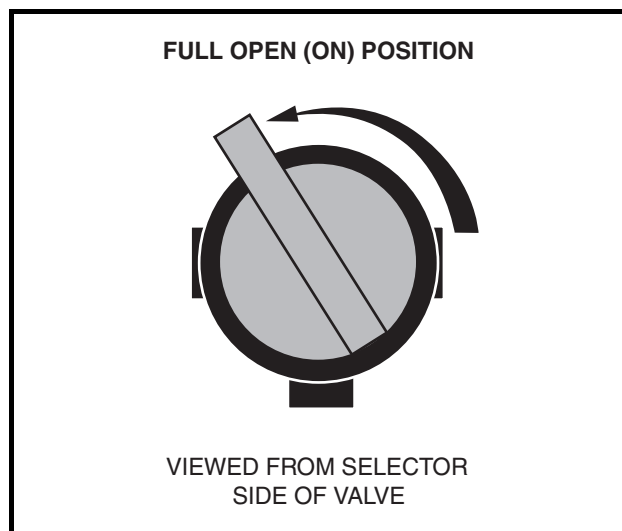
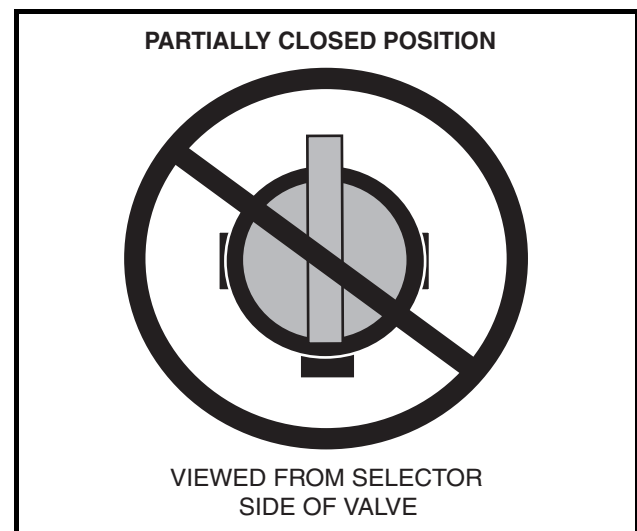

Figure 3-6 Fuel Shut-off Valve – Open Position (2008 Models)
Figure 3-7 Incorrect Fuel Shut-off Valve Setting (2008 Models)
- 2.1. Remove plug from the fuel tank vent nipple and connect fuel vent line to nipple. Open the fuel shut-off valve (**Figure 3-4, Page 3-3**) (**Figure 3-5, Page 3-3**) (**Figure 3-6, Page 3-4**). Make sure the valve is fully open. A partially closed fuel shut-off valve (**Figure 3-7, Page 3-4**) combined with the use of the choke can result in a fouled spark plug and engine failure.